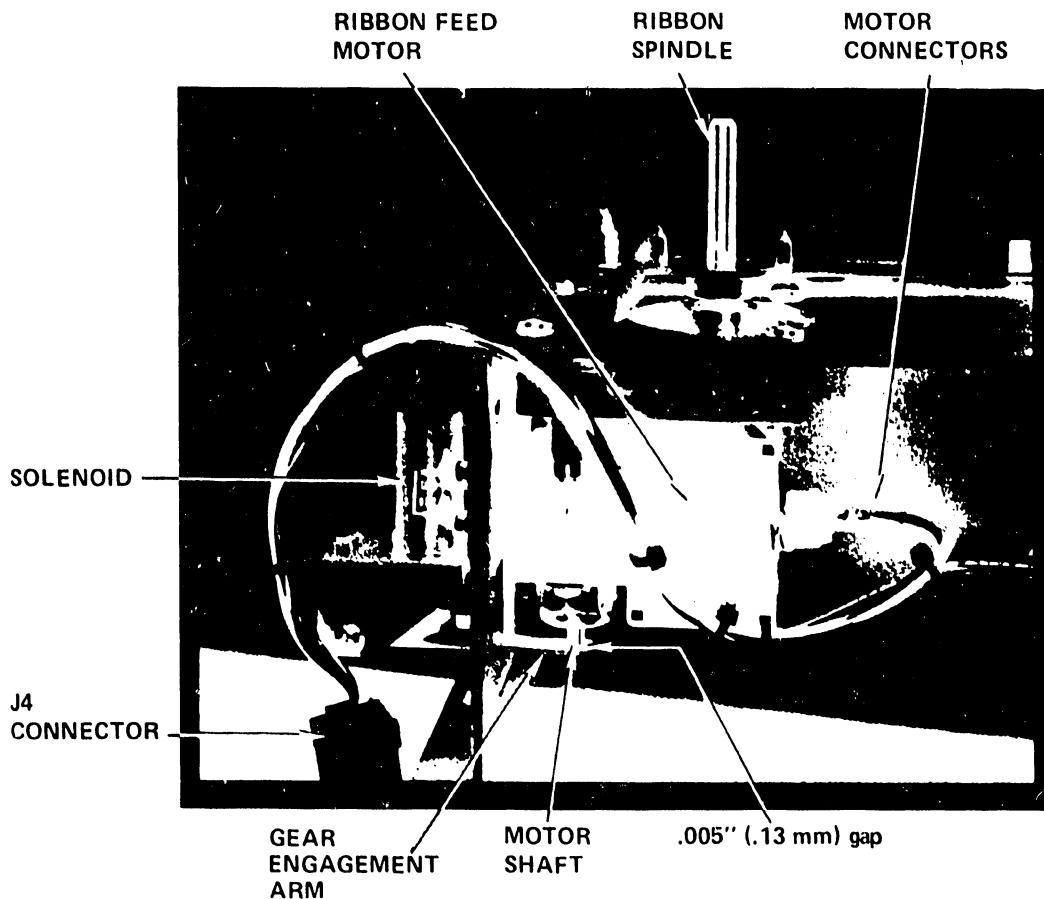

Figure 5-16. Ribbon Drive Assembly Solenoid Height Check
2. Solenoid Height - At the left and right ribbon drive motors, check the gap, with a feeler gauge, between the gear engagement arm and the motor shaft. The gap should measure .005 inches (.13 mm); if the gap is incorrect, perform a solenoid height adjustment. See Figure 5-16.